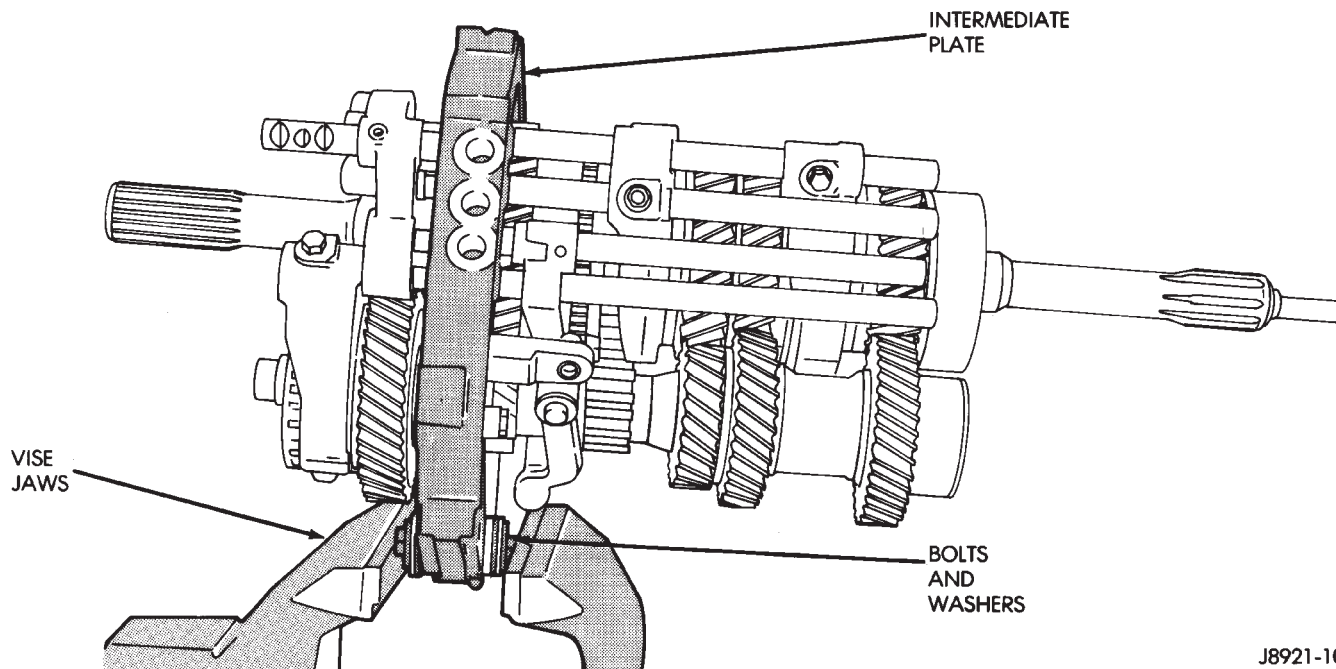
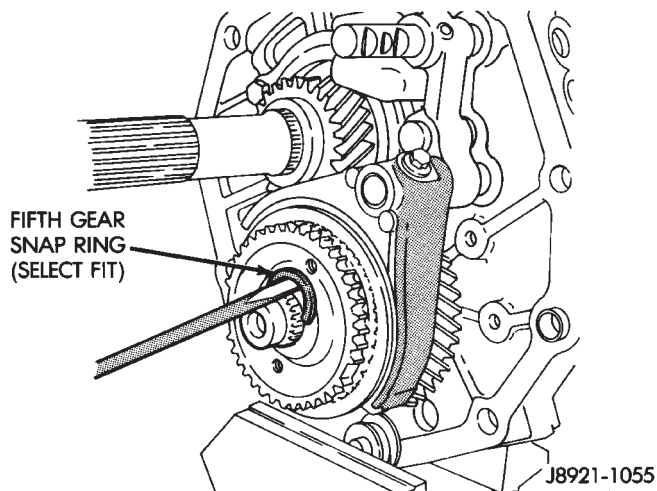

Fig. 51 Positioning Intermediate Plate In Vise
Fig. 52 Remove Fifth Gear Snap-ring
(1) Install suitable bolts and washers in intermediate plate (Fig. 51). Then clamp plate and gear assembly in vise. Use enough washers to prevent bolts from touching. Also be sure vise jaws are clamped on bolt heads.
(2) Measure thrust clearance between countershaft fifth gear and thrust ring with feeler gauge. Clearance should be 0.10 to 0.40 mm (0.003 to 0.019 in.). If clearance exceeds limits, gear and/or ring will have to be replaced.
(3) Remove countershaft fifth gear retaining snapping (Fig. 52).